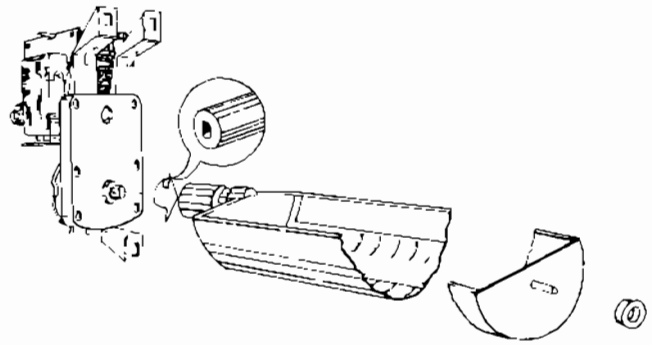

Fig. 8
1. Make sure the hole through the rear shaft is in a horizontal plane. (If a pin were inserted in the hole, the pin would be horizontal.) See Fig 8, pg. 22.
2. The vend rotor must be in the loading position when the motor shaft is inserted into the end of the rotor. See Fig. 8, pg. 22.